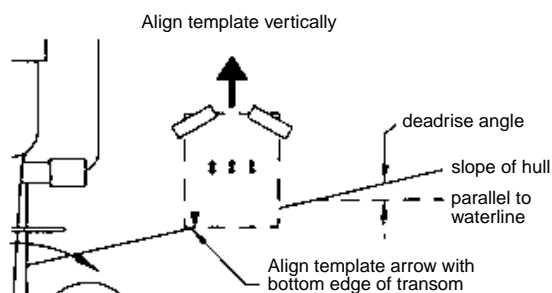

Figure 3. Template position
2. At the selected location, position the template, so the arrow at the bottom is aligned with the bottom edge of the transom. *Being sure* the template is parallel to the waterline, tape it in place (see Figure 3).